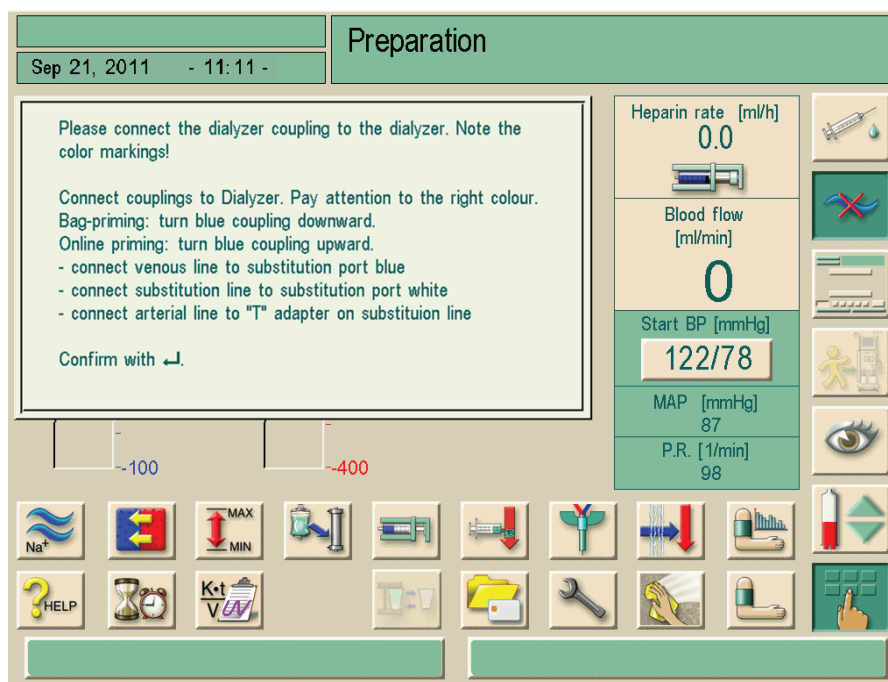

Fig. 9-4 Information window for connection
- ✎ The confirmation window (Fig. 9-4 Information window for connection (150)) appears.